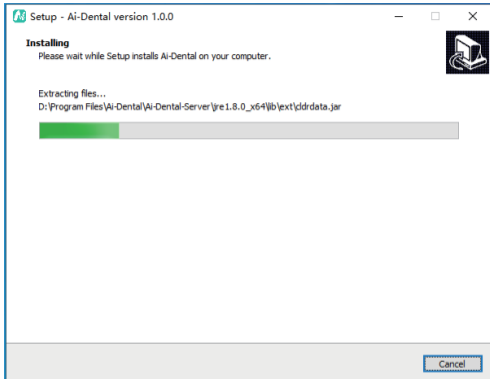

Figure 7
f) After clicking the "Install" button, the program starts to install. The user can wait for the installation to complete, as shown in Figure 7: